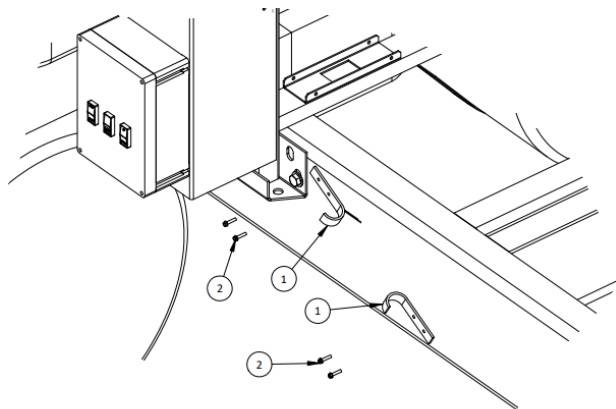

FIGURE 2.2: MOUNTING FRONT J-HOOKS
Find a location at the front of the system to install the first set of J-Hooks. Front J-Hooks should not be installed on the detachable container or any moving part. J-Hooks can be installed to the vertical face of the frame rail on the driver side. Use the supplied #12 self-drilling screws (2) to attach the J-Hooks (1). These can be substituted for through bolts if desired. J-Hooks should face outward and get installed at least 12 inches apart. See Figure 2.2.